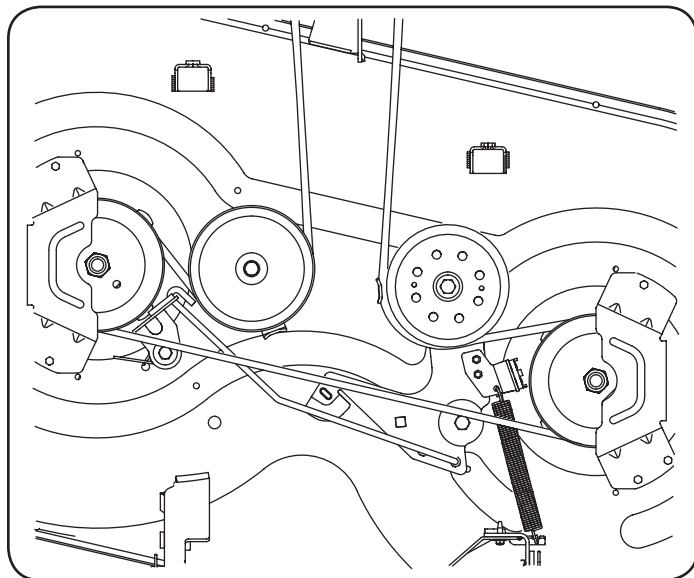

Figure 28
- Route the new belt as shown in Figure 28.